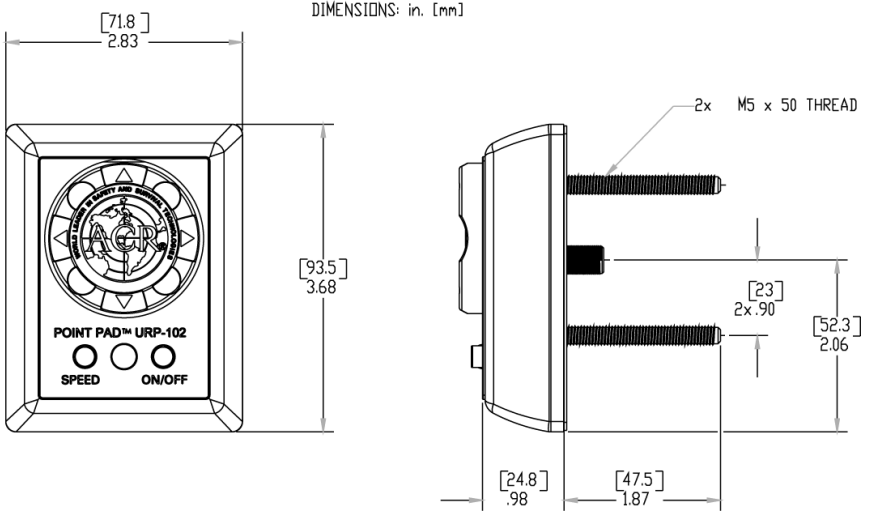
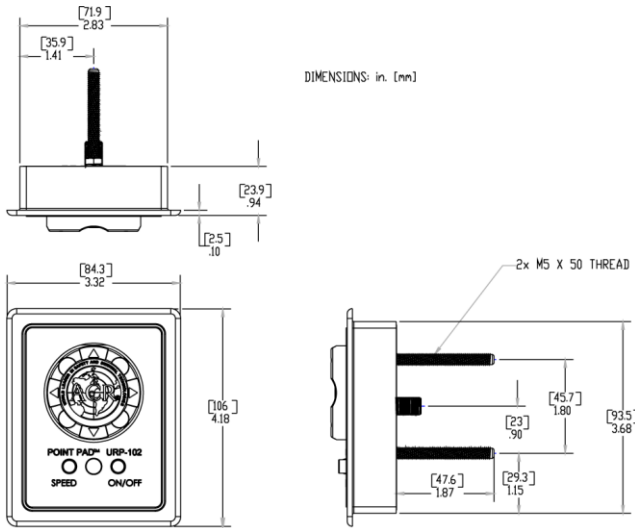

Figure 4 - URP-102 Point Pad™ Surface Mount Case
Figure 5 - URP-102 Point Pad™ Flush Mount Case
The URP-102 Point Pad™ is supplied as a surface mount unit (see *Figure 4*). A flush mount option is provided (see *Figure 5*). To switch mounting options, unscrew the six (6) screws on the unit's back plate and remove the front cover. Fit the Point Pad™ with the flush mount cover, replace the back plate, and screw the unit back together.